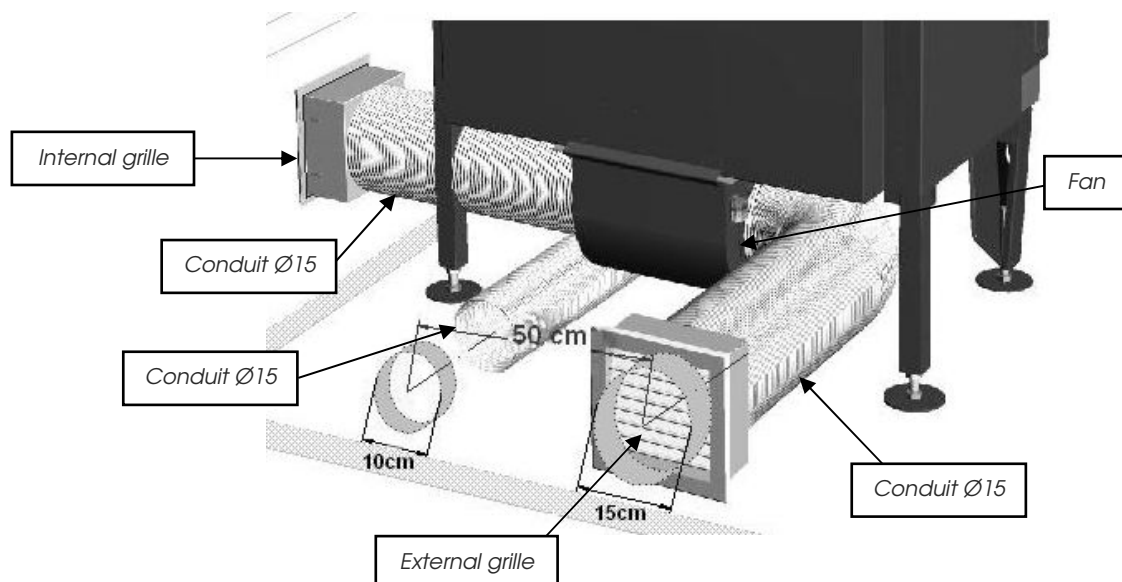

Fig. 10: Back view of a fireplace with fan system
- Open in the wall, an $\varnothing 15\text{cm}$ hole as the external combustion air intake (Fig. 10) and cover it with an adjustable anti-insect grille.
- Open in the wall another $\varnothing 10\text{cm}$ hole to lead the air into the combustion chamber (Fig. 10).
- These two external holes must have a minimum distance of 50cm between them (Fig.10).